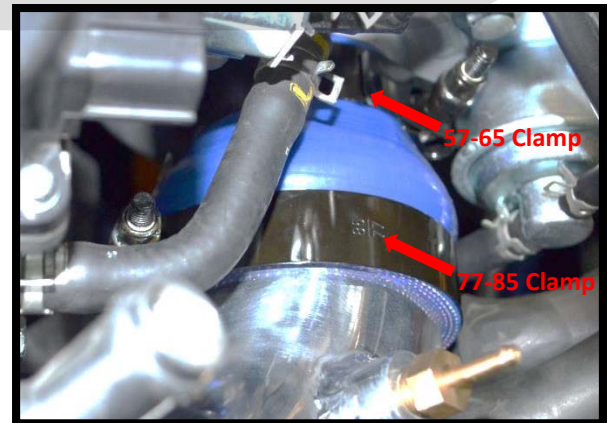

Figure 5a
a) **Place the CorkSport TIP in a similar orientation to the factory pipe.** Feed the silicone coupler end of the TIP toward the turbocharger inlet. Align the bracket on the CorkSport turbo inlet pipe with the stud on the valve cover bracket (red circle in Figure 5b) and connect the 2.25" diameter silicone coupling over the end of the turbocharger compressor inlet, taking care to keep the loose hose clamp in place (shown in Figure 5a). This should fit easily - if not, the T-bolt clamp is probably too tight or is interfering.